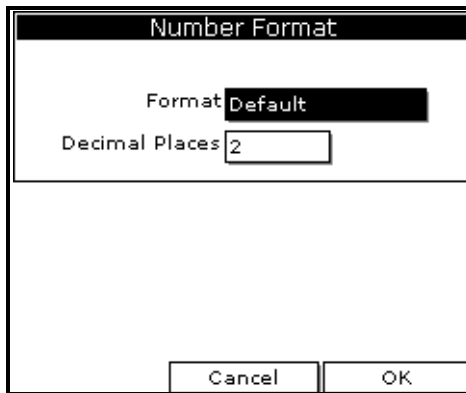

Figure 16: Number Format Window
2. Use the arrow keys to scroll to **Format** and press [ENTER]. The screen appears similar to Figure 16.